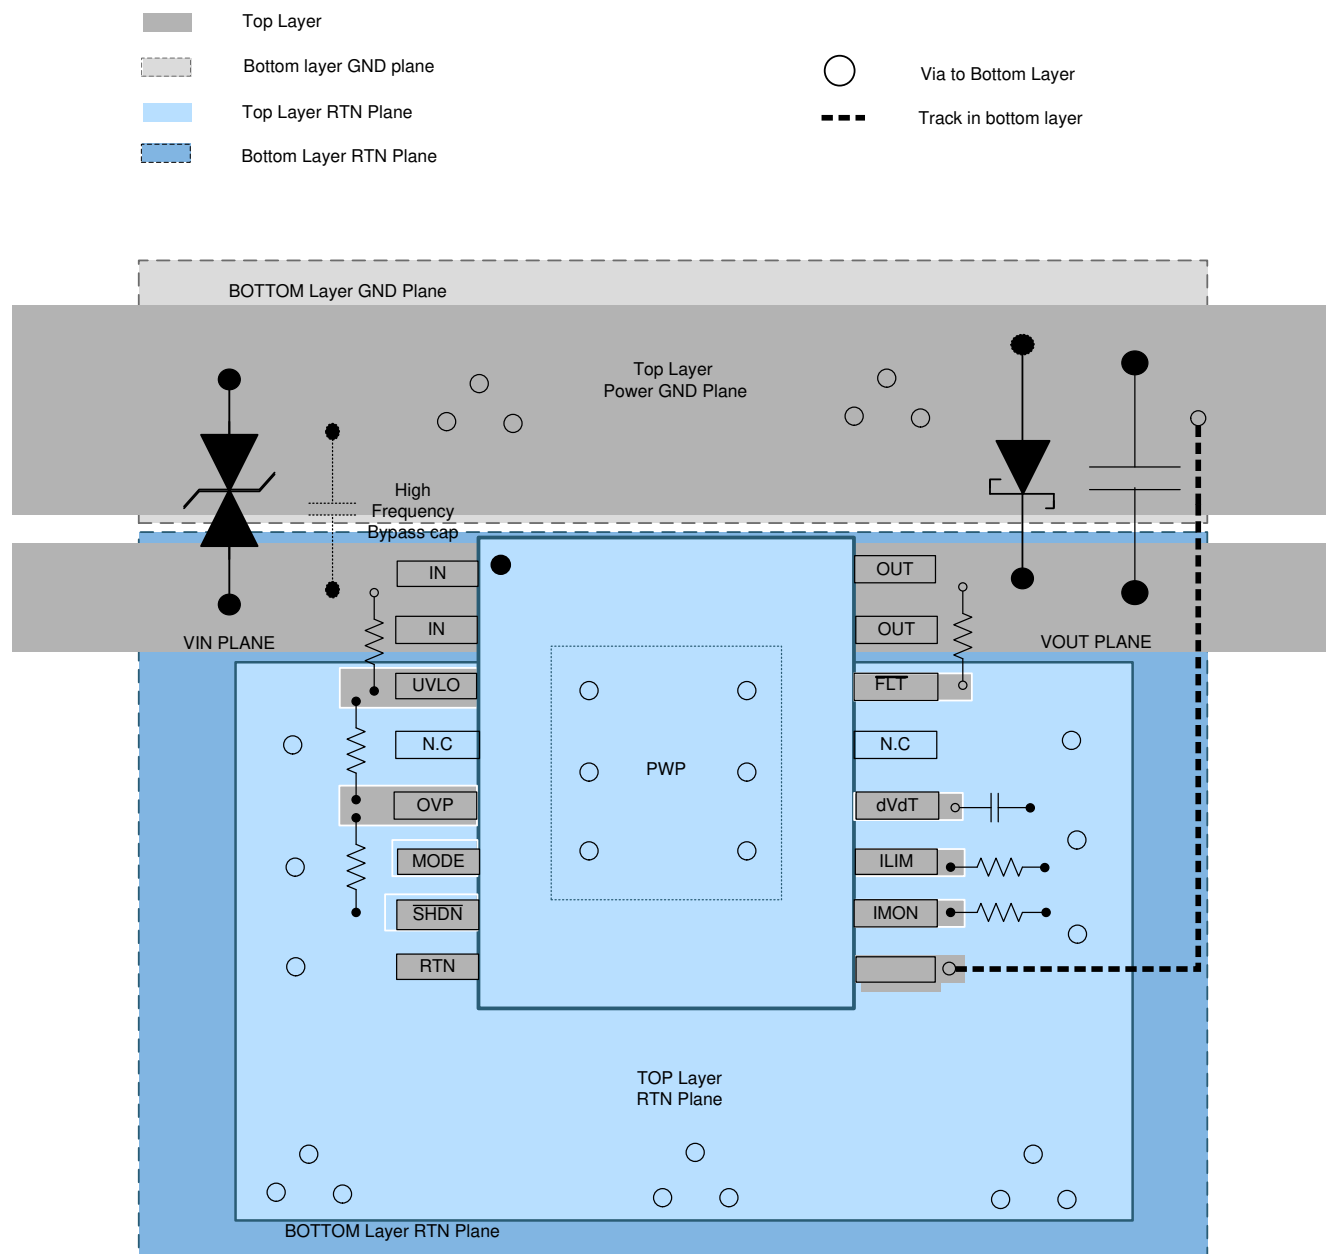
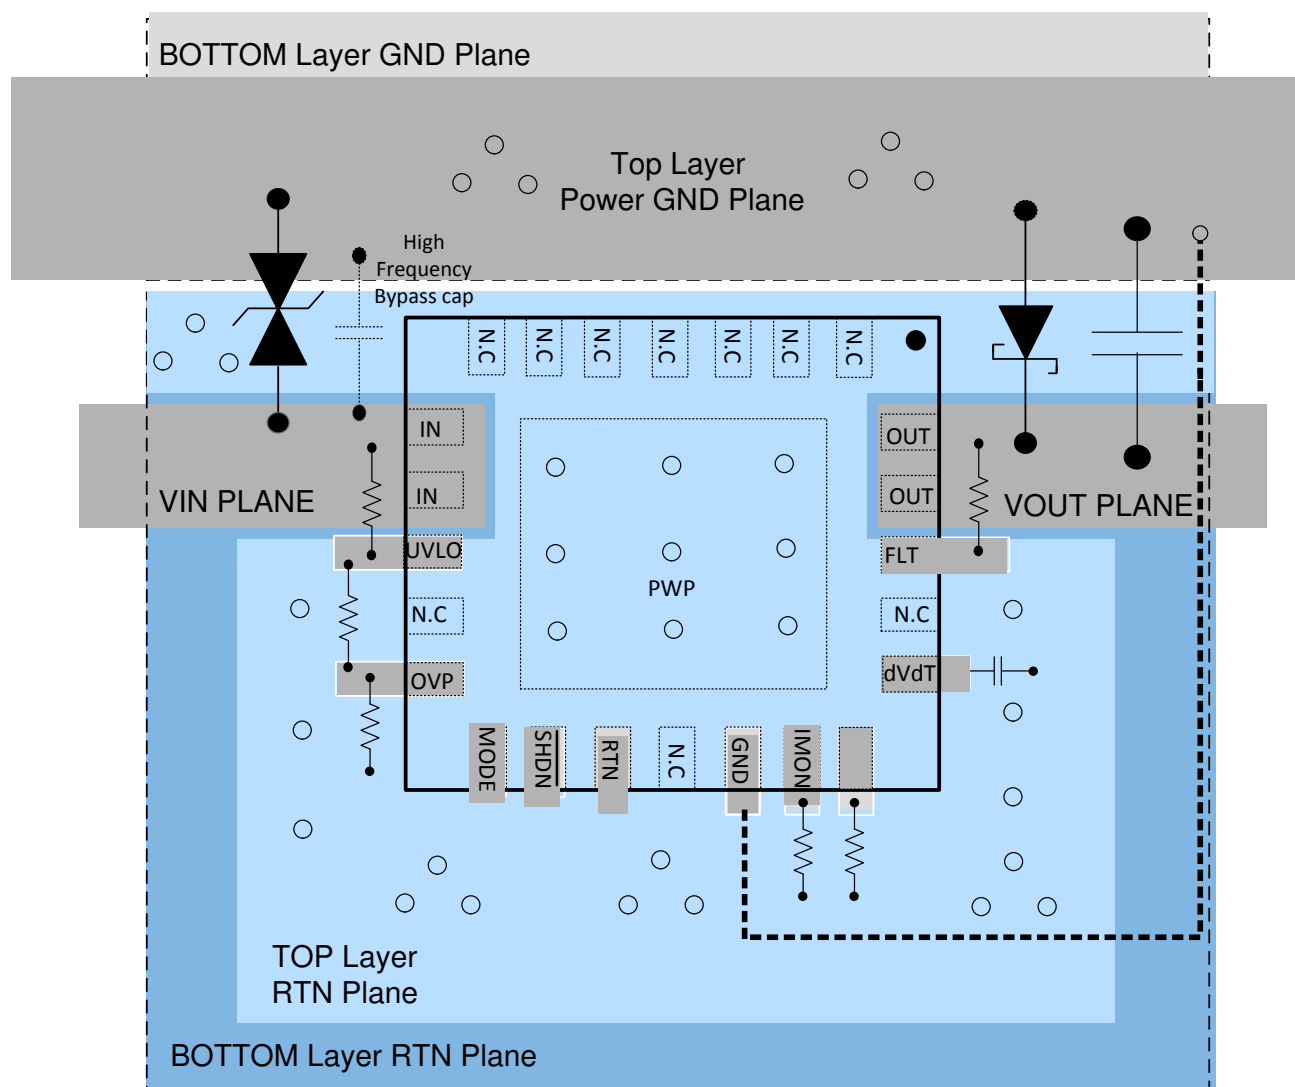

图 12-1. Typical PCB Layout Example With HTSSOP Package With a 2 Layer PCB
图 12-2. Typical PCB Layout Example With VQFN Package With a 2 Layer PCB
- The optimum placement of decoupling capacitor is closest to the IN and GND terminals of the device. Care must be taken to minimize the loop area formed by the bypass-capacitor connection, the IN terminal, and the GND terminal of the IC. See Figure 12-1 and Figure 12-2 for PCB layout examples with HTSSOP and VQFN packages respectively.